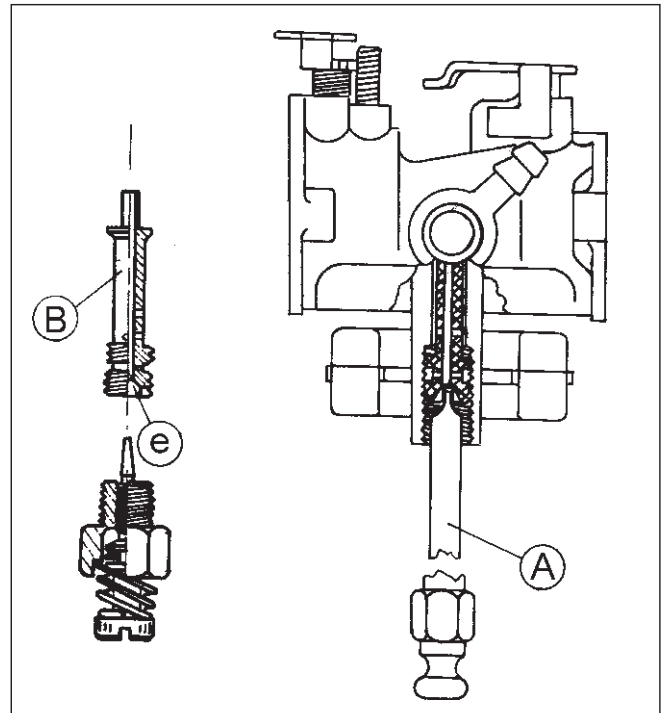

Fig. 15
- Check main and idle adjustment screws for wear. Should the tapers show excessive wear, replace. Check that gasket is free from defects - replace if any damage is apparent. To remove and replace main jet use special tool supplied by Tecumseh (Fig 15-A).
- Check that screwdriver cut in main nozzle (part B, Fig 15) is not damaged and that the main adjustment screw seat is not deeply stepped or otherwise damaged. Check that the fuel orifice in main jet (Fig 15, e) is not obstructed or the hole distorted. Replace if damaged.